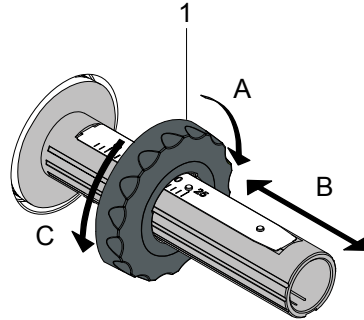

Fig. 10 Guide Adjustment
2. Turn lever (6) counterclockwise to open the printhead.
3. Set guide (1) on both hubs to the correct transfer ribbon width (Fig. 10):
- Hold hub and unlock guide (1) by turning it in direction A.
4. Load transfer ribbon (4) on the hub (5) until it reaches the guide in a way that the color coating of the ribbon faces the opposite side of the printhead after being loaded.